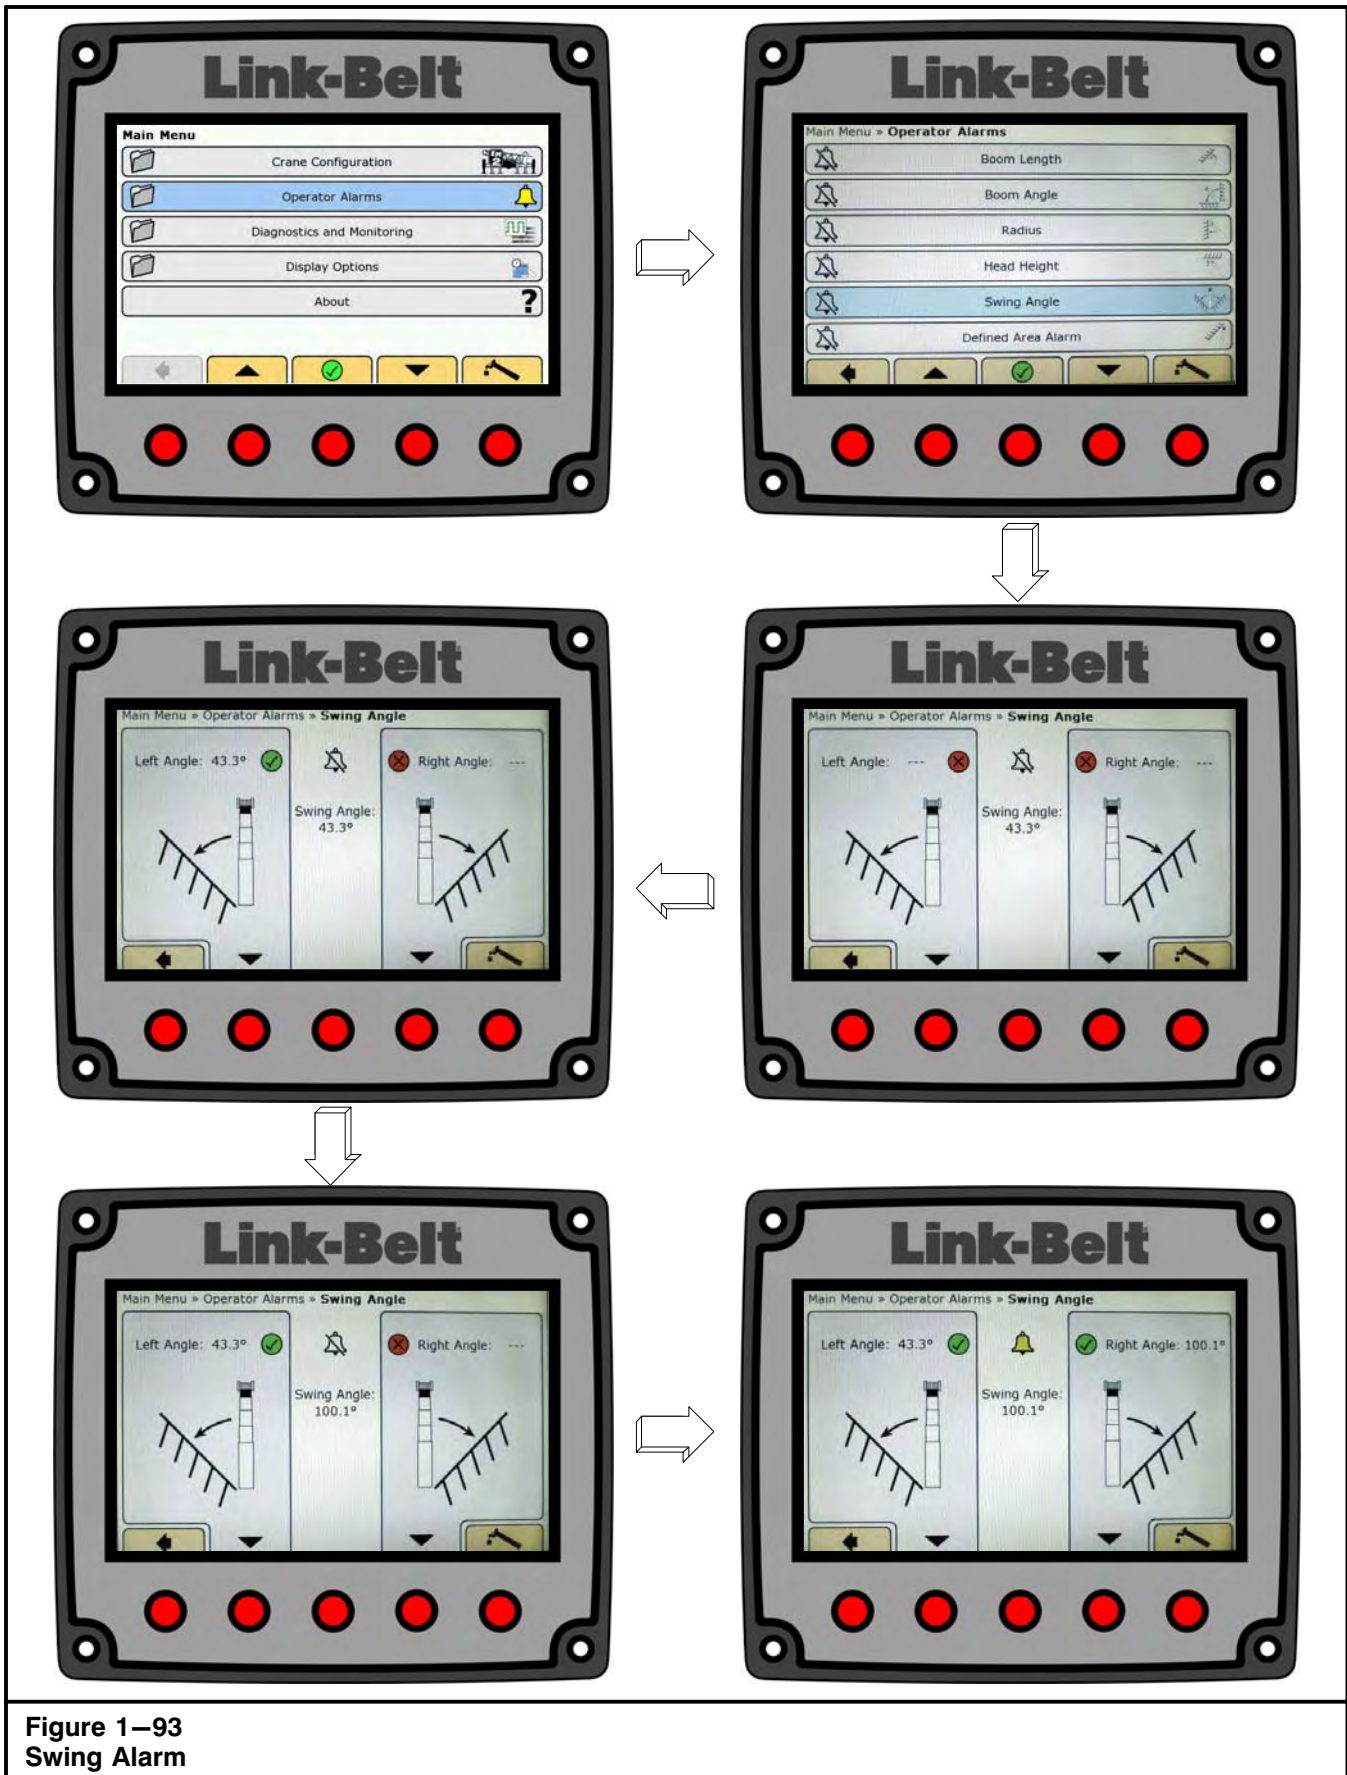

Figure 1–93
2. Scroll to Operator Alarms, and press the OK/Enter button . Refer to Figure 1–93.
The operator defined area alarm, when set, will define an imaginary vertical plane between two set points to optimize the working area. When approaching the plane, the audio alarm will sound intermittently, and the message "Approaching Defined Area" will appear in the warning message area. When passing the plane, the audio alarm will sound continuously and the message "Defined Area" will appear on the warning message area. Use the following procedure, Figure 1–94, and Figure 1–95 to set the operator defined area alarm.